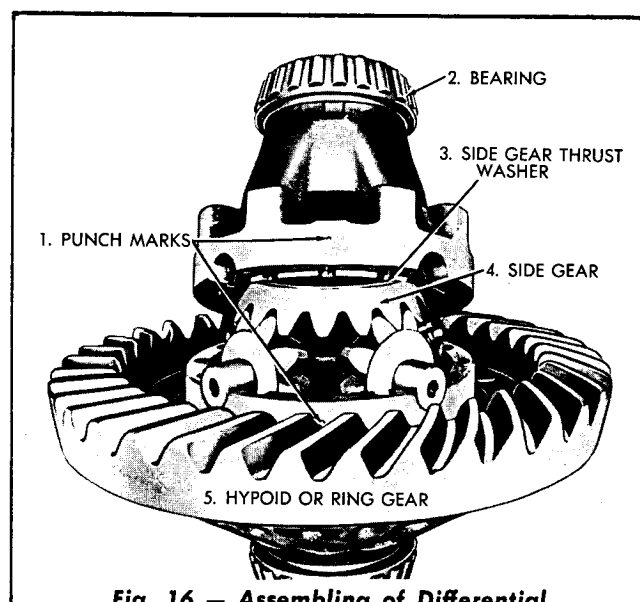

Fig. 16 – Assembling of Differential
4. Install the component side gear and the thrust washer in the other half of the case. After aligning the mating marks (Fig. 16) on the differential case halves, draw the assembly together with four of the capscrews and the nuts equally spaced around the case. Check for free rotation of the differential gears.
NOTE: If the differential bearings (Fig. 16) are to be replaced, press the bearings squarely and firmly on the differential case. The bearing cups must also be replaced.